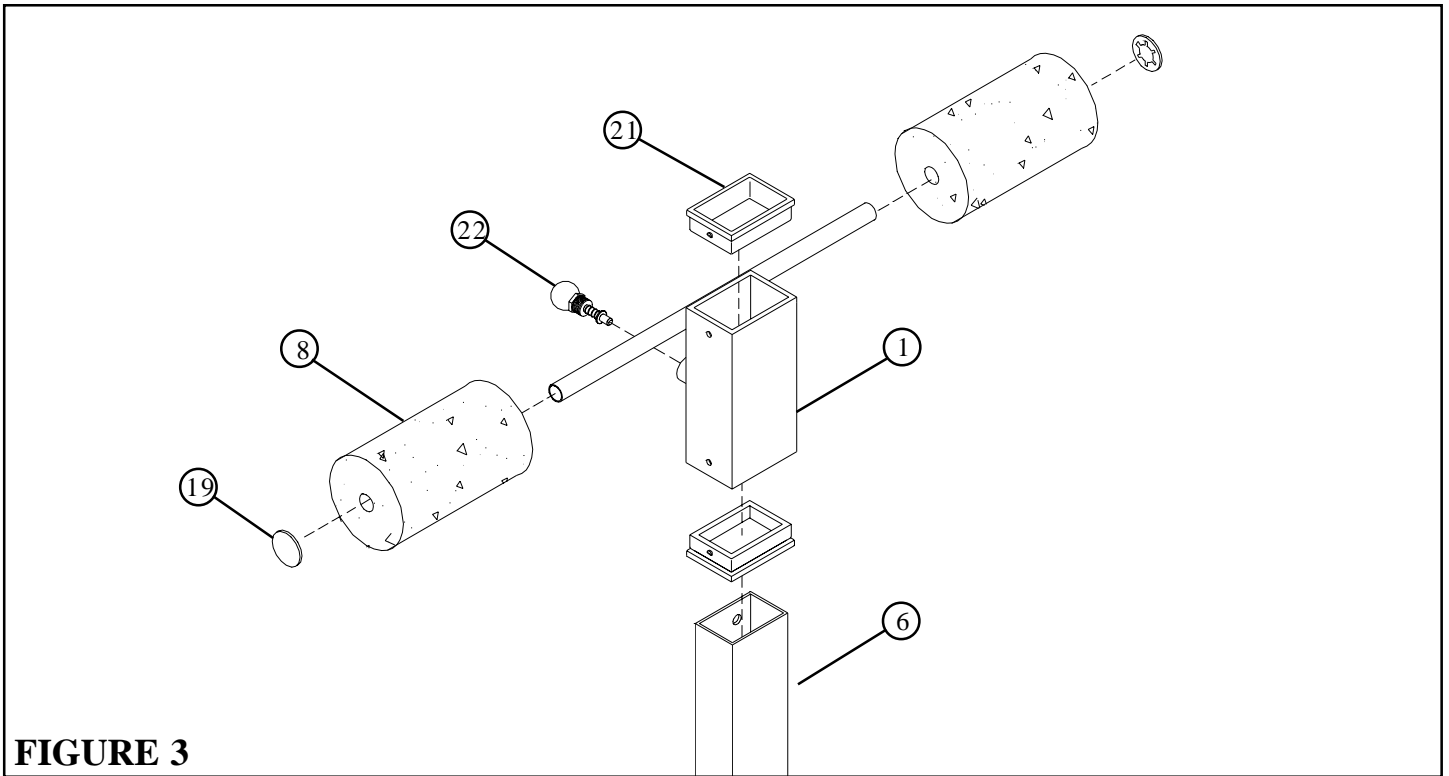

FIGURE 3
- Insert two 3 X 2” INSERT GUIDES (21) into the end of each of the ROLLER PAD SUPPORT (1) as shown in FIGURE 3.
- **SECURELY** assemble the SPRING PIN ASSEMBLY (22) to the ROLLER PAD SUPPORT (1). See FIGURE 3.
- Slide the two ROLLER PADS (8) onto the ROLLER PAD SUPPORT (1) using two STARLOCK COLLARS (19) as shown in FIGURE 3.
- Pull back the SPRING PIN and **CAREFULLY** slide the ROLLER PAD SUPPORT (1) over the REAR UPRIGHT (6). as shown in FIGURE 3.